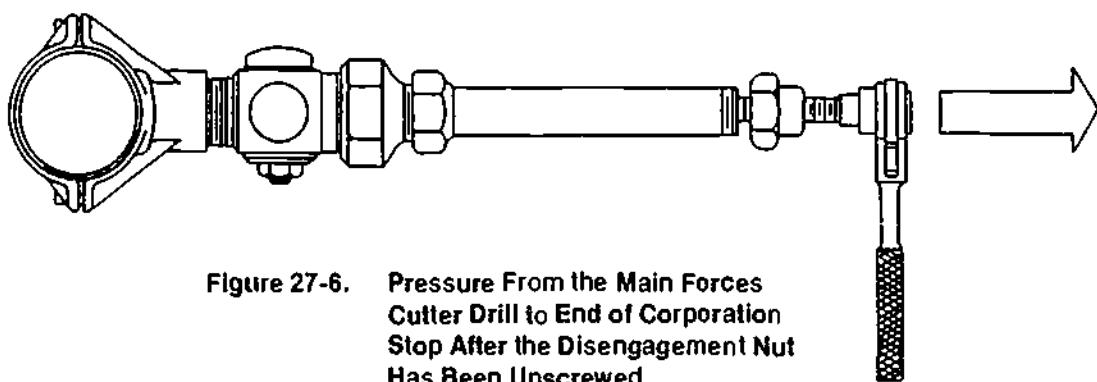

Figure 27-6. Pressure From the Main Forces Cutter Drill to End of Corporation Stop After the Disengagement Nut Has Been Unscrewed
d) When the main has been drilled and the disengagement nut unscrewed from the drilling machine, the pressure in the main will create a piston action that will force the boring bar to its rear-most position. The corporation stop can then be closed and the drilling machine removed as shown in Figure 27-6.